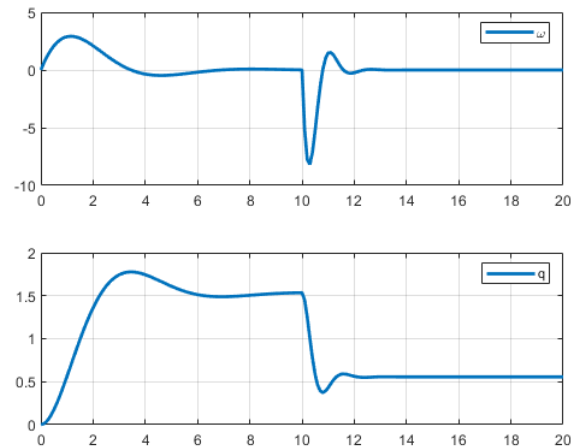

Figure 3: Expected simulation results.
- e) Using the `ode45` solver with a relative error tolerance of 1×10^{-6} , simulate the mechanical system for 20 seconds from the initial conditions $L(0) = 0, q(0) = 0$. Plot the angular velocity ω and spring displacement vs time. Your results should agree with Figure 3.